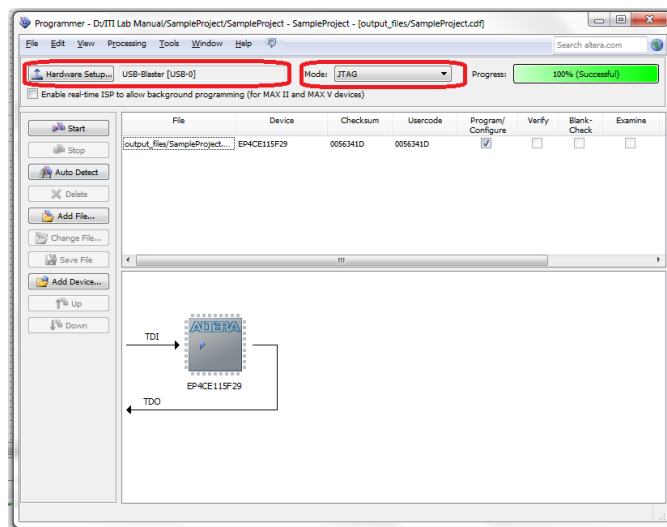

Figure 4.7.1: Accessing the programmer
- The programmer window will open (Figure 4.7.1).
2. Ensure the device is "USB Blaster" and the "JTAG" mode is selected near top of screen (Figure 4.7.1).